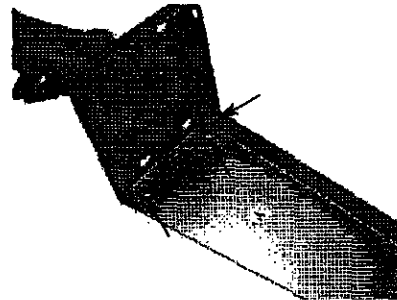

Figure 2 - Attach Top to Leg 'A'
- Position top inside leg so that slots are aligned as indicated in Figure 2.